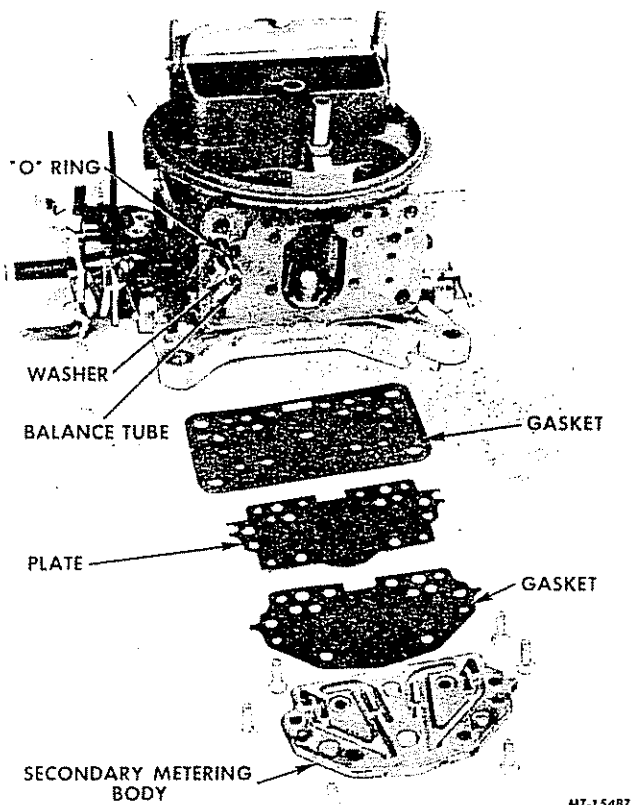

FIG. 34 — REMOVAL OR INSTALLATION OF SECONDARY METERING BODY (MODEL 4160)
15. Remove secondary metering body plate and gaskets from main body (Fig. 34).
2. Install a new secondary metering body (plate) to main body gasket followed by the metering body (plate) (Fig. 34). Install six clutch head screws. Tighten evenly and securely with a proper clutch head screwdriver.